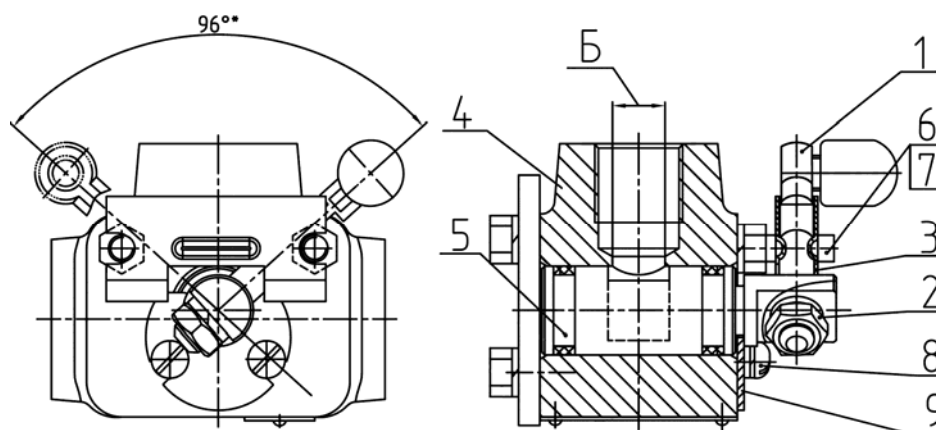
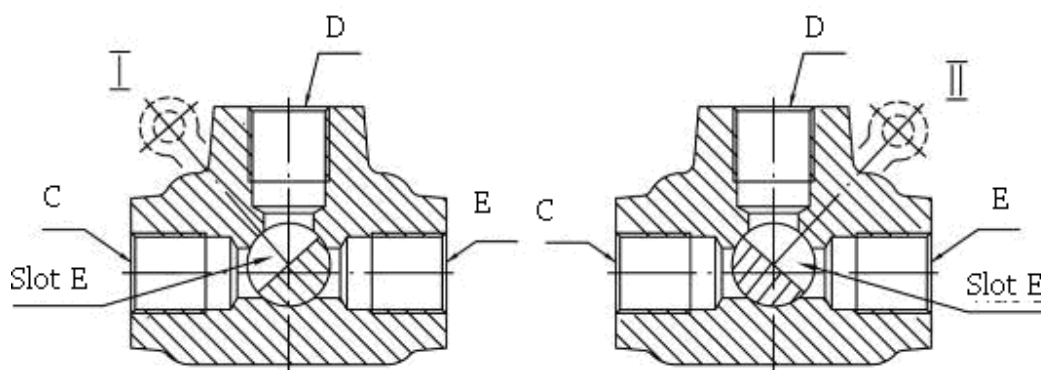

Figure 7.7
Figure 7.9
- 1) having unscrewed locking nut 2 (Figure 7.7), unscrew lever 1 off control valve 5 and remove stopper 3;
- a) lever 1 (Figure 7.7) must turn within stops 6 within angle of 96 degrees in extreme positions I and II (Figure 7.9), lever must be fixed with stopper 9 (Figure 7.7);
- b) put lever 1 (Figure 7.7) in position I, with slot «E» (Figure 7.9) of control valve being visible through both openings «B» and «Г»;
- c) put lever 1 (Figure 7.7) in position II (Figure 7.9), with slot «E» of control valve being visible through both openings «Г» and «Д»